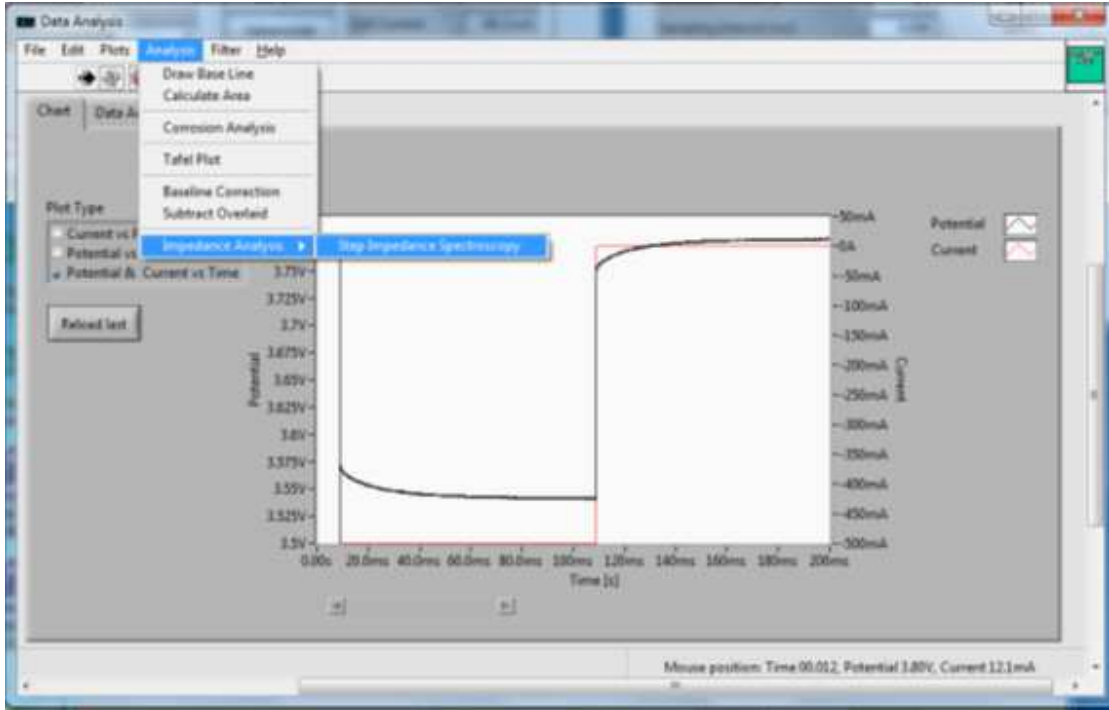

Figure 52 Opening [Step impedance calculator]
- [Data Analysis] **Analysis** → *Impedance Analysis* → Step Impedance Spectroscopy (Figure 52) opens the [Step Impedance Calculator] window (Figure 53).